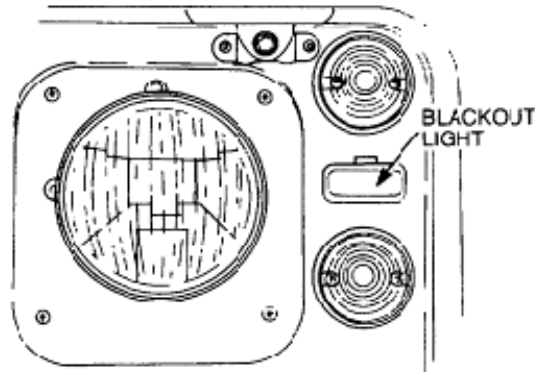

Figure 156 Front Blackout Light Removal
- c. Remove the two nuts and washers securing the light unit to the front panel (Figure 156).